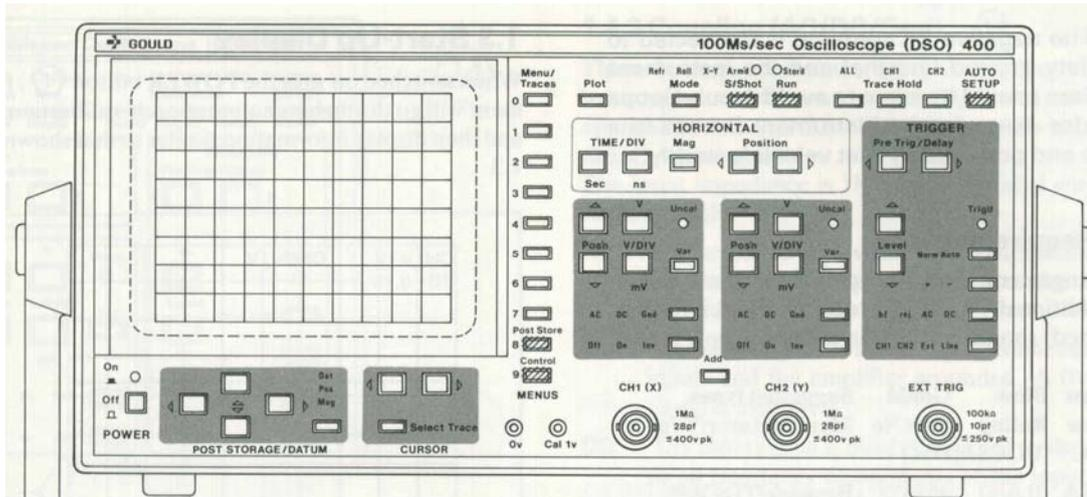

Figure 1.2a Single Function Buttons
There are three types of buttons. The first type usually have only one function: when pressed, that one function will be activated e.g. AUTO SETUP (24). See Figure 1.2a.